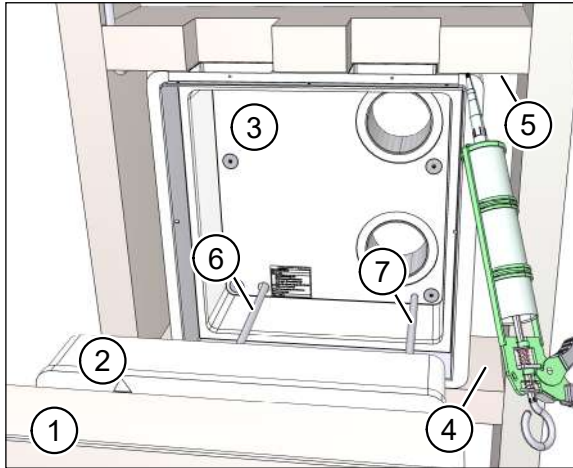

Fig. 48: Inserting and fixing the wall box
- ▶ Remove the plaster cover (item 1 in Fig. 48) and the protective cover (item 2 in Fig. 48) from the wall box (item 3 in Fig. 48).
- ▶ Apply assembly adhesive to the top of the lower batten (item 4 in Fig. 48) and the underside of the upper batten (item 5 in Fig. 48).
- ▶ Thread the mains cable (item 6 in Fig. 48) and the control cable, if required (item 7 in Fig. 48), through the cable inlets in the wall box.